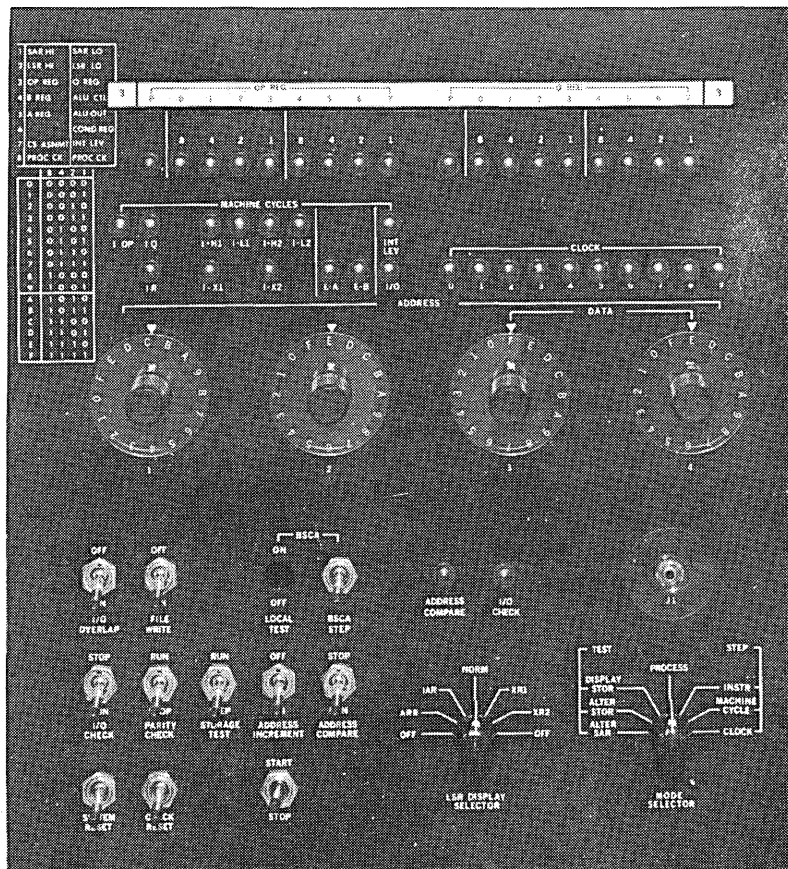

Figure 26. CE Panel
The customer engineer (CE) panel is behind the front cover of the processing unit (Figure 26). Switches, lights, and dials on this panel are used primarily by the customer engineer when servicing the system. You use this panel to record the status of the system after a processor check or an unidentifiable halt has occurred. See *Using the System/3 Model 6 Error Log Sheet* under *System Operation* for instructions. Functions of switches, lights, and dials on the CE panel are described here.